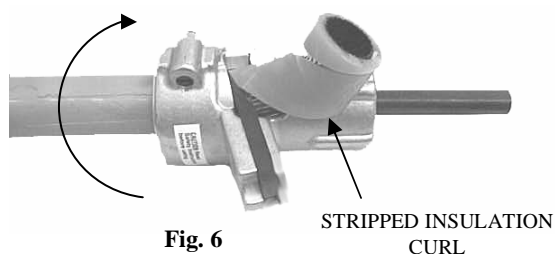

Fig. 6
**Step 6.** (Fig. 6) Rotate the tool clockwise around the cable to remove the insulation. Insulation will peel off until the cable conductor reaches the stop bar. The blade will automatically sever the insulation cleanly at the end of the cut.